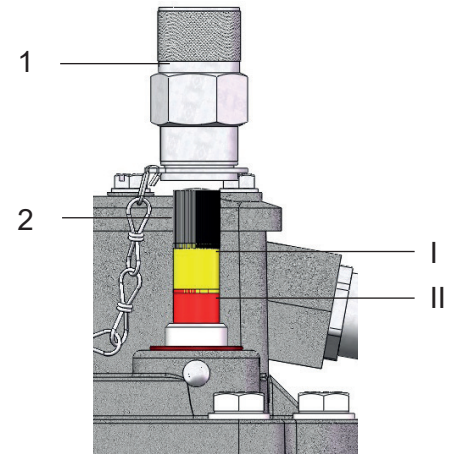

Figure 12 - Test key
- Remove the large cap nut (Fig. 12/ No. 1)
- Press the test key (Fig. 12/ No. 2) half down (Fig. 12/ No. I) and keep depressed (check of upper switching system - alarm)
- Press the test key down to stop position (Fig. 12/ No. II) and keep depressed (check of lower switching system - disconnection)